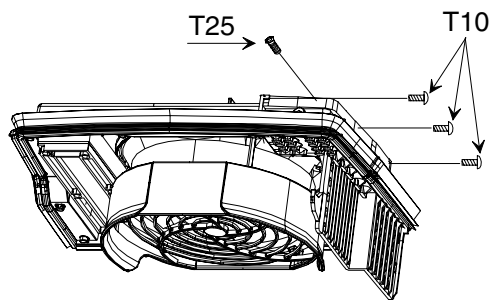
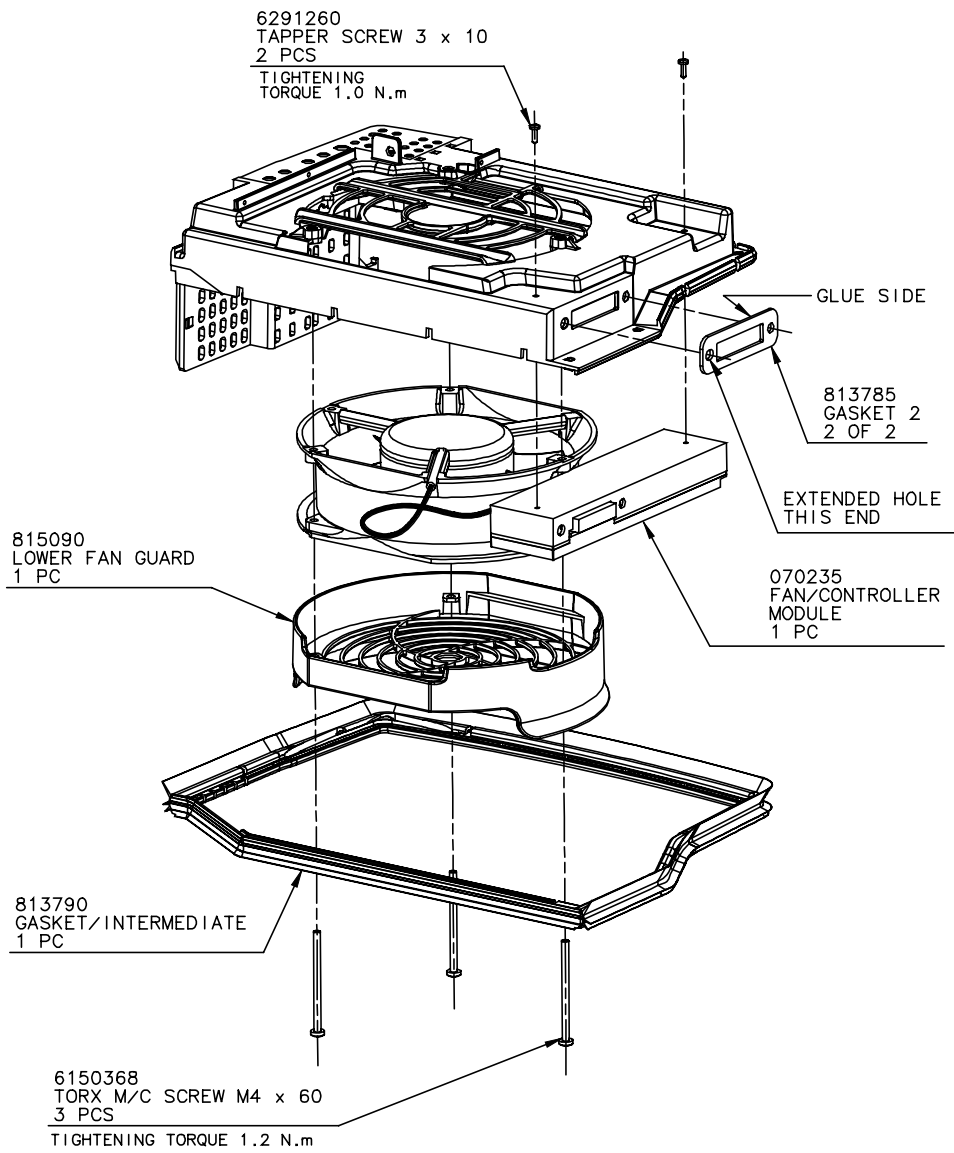

Figure 11. HVMF cooling fan assembly and mounting screws
Figure 12. HVMF fan assembly, version 1
There are two versions of the HVMF fan unit. Version 1 has a controller module which is fixed by taper screws which are accessed from the top of the fan mounting (see Figure 12). Version 2 has a controller module which can be removed by accessing the taper screws from the bottom of the fan mounting (see Figure 13).
Figure 11 shows the HVMF fan assembly. For an exploded view of the fan assembly, see Figure 12.
1. Remove the three T10 Torx screws and one T25 Torx screw from the right hand side of the mounting assembly. See Figure 11.
2. Remove the three M4 x 60 Torx screws from the fan unit (see Figure 12) to release the fan unit and the lower fan guard.
3. Remove the two 3 x 10 self tapper screws from the fan controller module (see Figure 12).
BTS installations fitted with version 2 of the HVMF fan assembly can be removed without removing the complete fan assembly mounting. The screws retaining the fan unit and controller module can be reached from the underside of the BTS. Compare Figure 13 with Figure 12.
2. Remove the three M4 x 60 Torx screws from the fan unit to release the fan unit and the lower fan guard. See Figure 12.